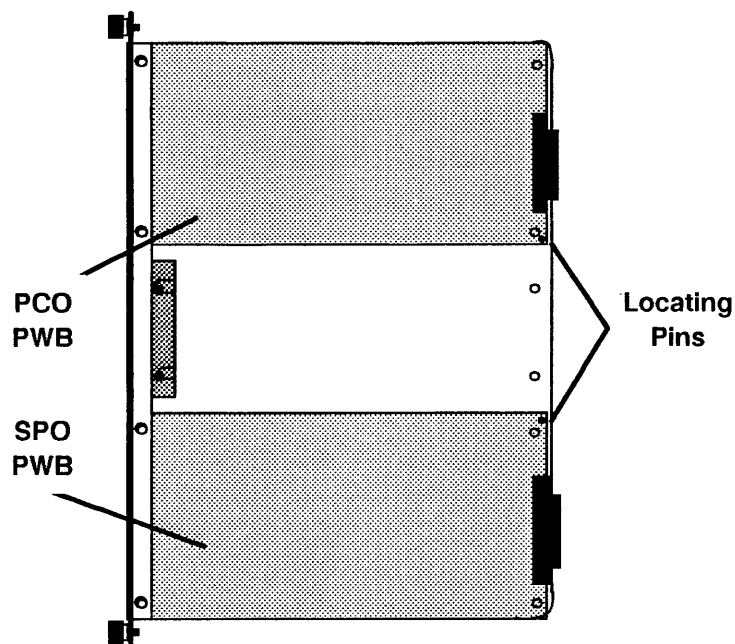

Figure 31. C5 Stiffener: installation of both SPO and PCO PWBs
5. Place the PCO PWB on the upper section of the new C5 stiffener, making certain that the locating hole in the lower right corner of the PCO PWB is seated on the locating pin on the stiffener (Figure 31).